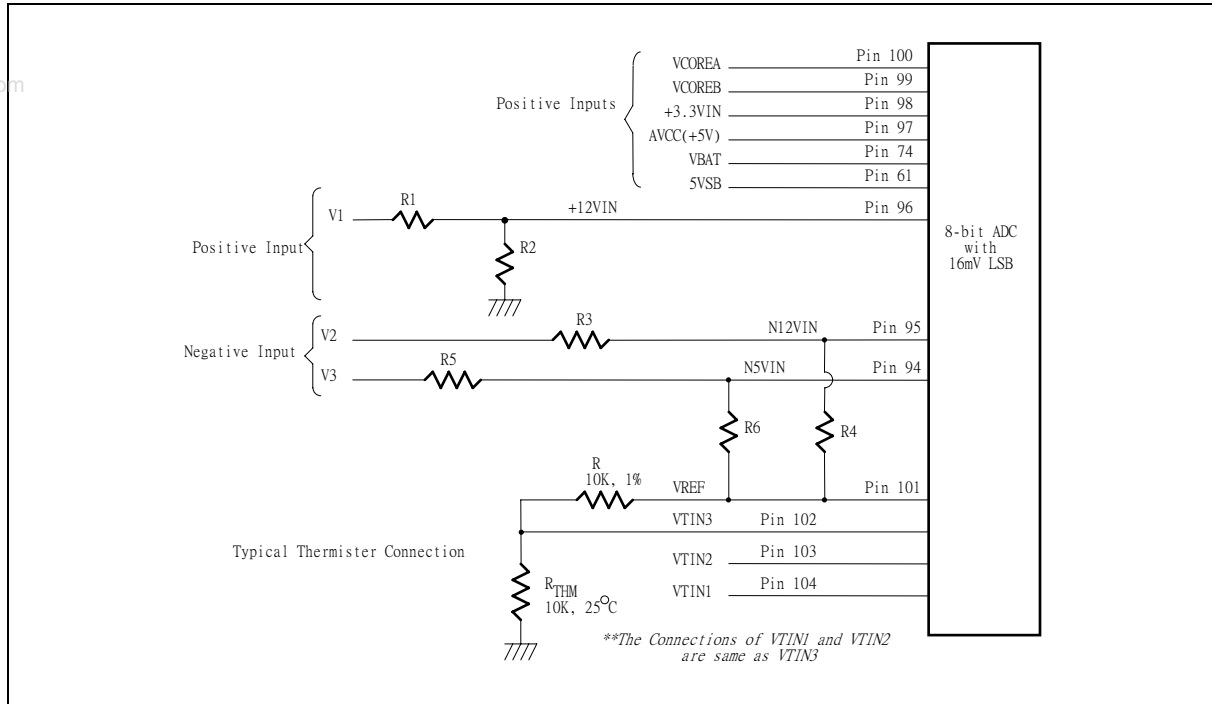

Figure. 8.2
The maximum input voltage of the analog pin is 4.096V because the 8-bit ADC has a 16mV LSB. Really, the application of the PC monitoring would most often be connected to power suppliers. The CPU V-core voltage, +3.3V, battery and 5VSB voltage can directly connected to these analog inputs. The +12V, -12V and -5V voltage inputs should be reduced a factor with external resistors so as to obtain the input range. As Figure 8.2 shows.
The negative voltage should be connected two series resistors and a positive voltage VREF (is equal to 3.6V) . In the Figure 8.2, the voltage V2 and V3 are two negative voltage which they are -12V and -5V respectively. The voltage V2 is connected to two serial resistors then is connected to another terminal VREF which is positive voltage. So as that the voltage node N12VIN can be obtain a posedge voltage if the scales of the two serial resirtors are carefully selected. It is recommended from Winbond that the scale of two serial resistors are R3=232K ohm and R4=56K ohm. The input voltage of node N12VIN can be calculated by following equation.
The W83627HF can connect three thermistors to measure three different environment temperature. The specification of thermistor should be considered to (1) β value is 3435K, (2) resistor value is 10K ohms at 25°C. In the Figure 8.2, the thermistor is connected by a serial resistor with 10K Ohms, then connect to VREF (Pin 101) .